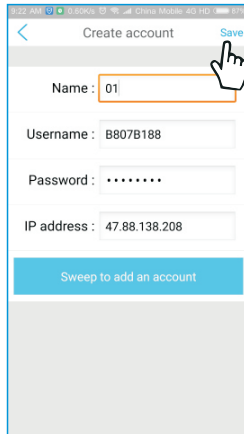

Figure 8-5
- C. After scanning the QR Code successfully, the "Create Account" interface appears, as shown in Figure 8-5